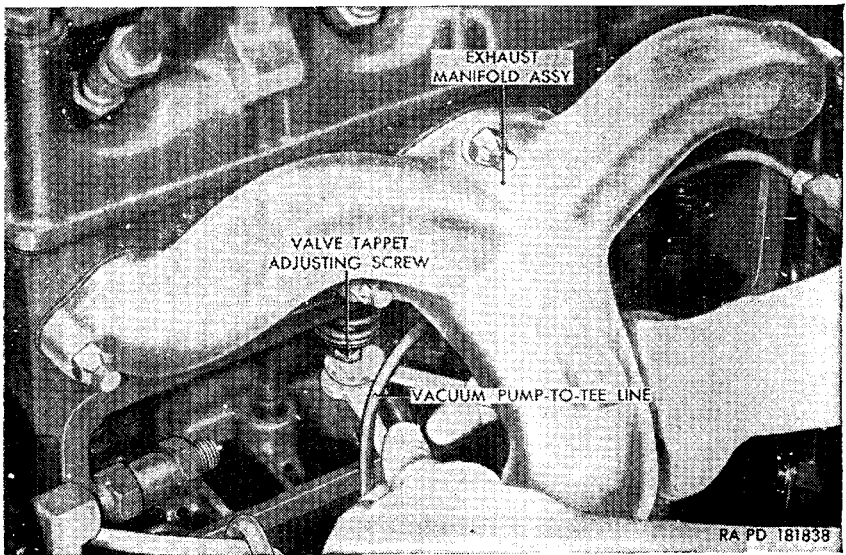

Figure 45. Adjusting exhaust valve clearance.
- (1) Remove the valve compartment cover and gasket (par. 109*a*).
- (2) Using a suitable socket wrench and extensions, turn the engine crankshaft, as necessary to bring each exhaust valve (fig. 45) in turn to full closed position (exhaust valve tappet all the way down).
- (3) Check the exhaust valve clearance by inserting a feeler gage between the end of the valve tappet adjusting screw (fig. 45) and the bottom of the exhaust valve rotator cap and measure clearance. The clearance should be 0.016 inch.
- (4) Adjust the valve clearance by placing one wrench on the exhaust valve tappet and another wrench on the valve tappet adjusting screw, hold tappet from turning and turn the adjusting screw in or out, as necessary, to obtain the correct clearance.
- (5) Install the valve compartment cover and gasket (par. 109*b*).